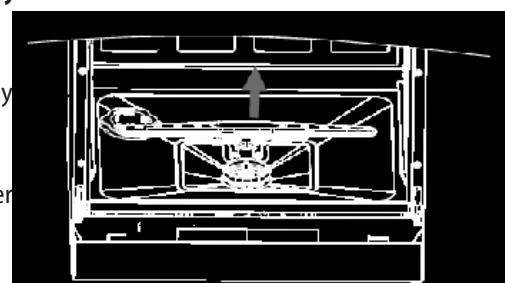

Fig. 11
- If needed, unscrew spray arm, and remove it (Figure 11). Rinse it under running water and reinstall.